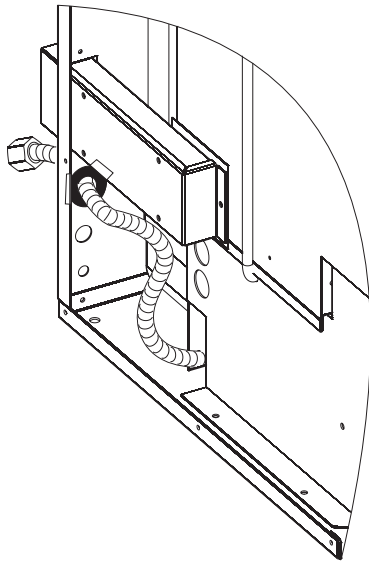

Figure 56 - Fireplace Mantis
1. Pull the factory installed flexible gas line through the hole in the back panel. See Figures 56 and 57.